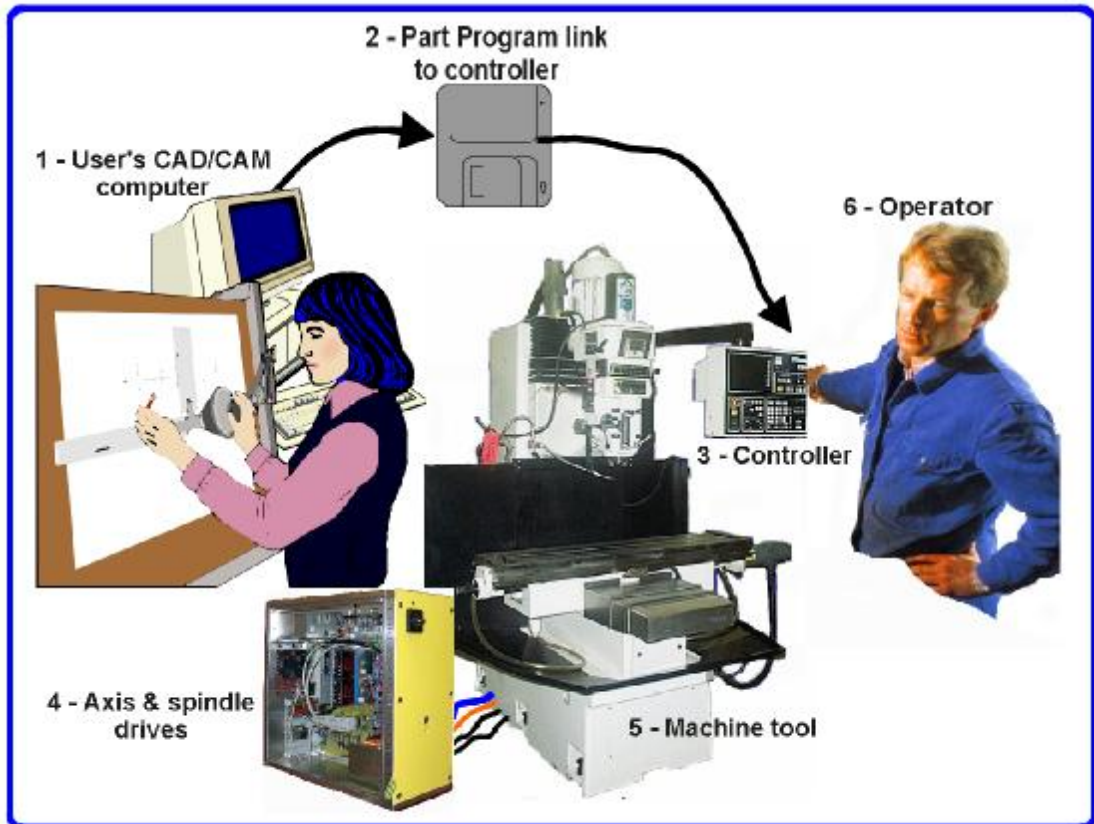

Figure 1.1 - Typical NC machining system
The main parts of a system for numerically controlled mill are shown in figure 1.1
Mach2 is a software package which runs on a PC and turns it into a very powerful and economical Machine Controller to replace (3) in figure 1.1.
To run Mach2 you need Windows XP (or Windows 2000) ideally running on a 1GHz processor with a 1024 x 768 pixel resolution screen. A desktop machine will give much better performance than most laptops and be considerably cheaper. You can, of course use this computer for any other functions in the workshop (such as (1) in figure 1.1 - running a CAD/CAM package) when it is not controlling your machine.